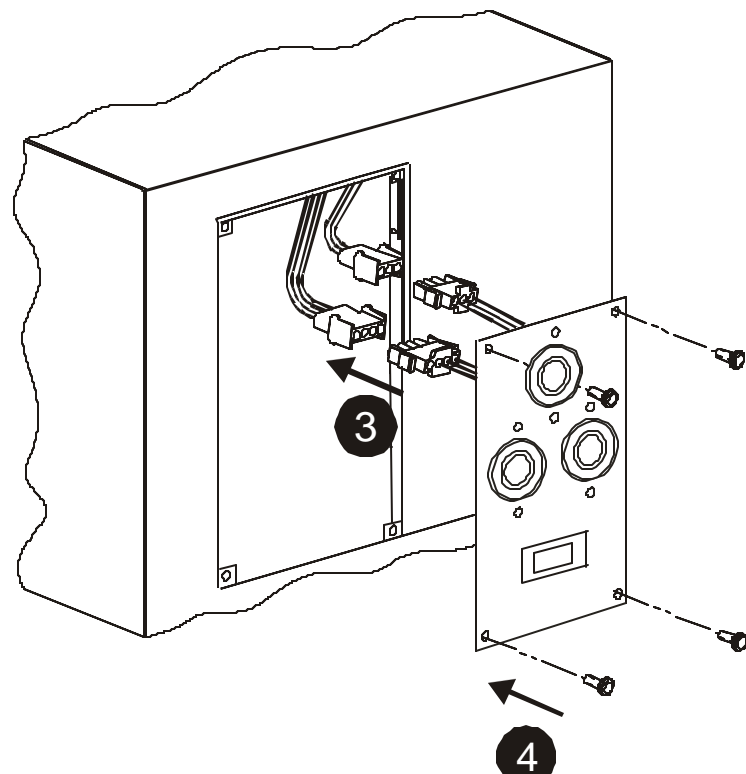

Figure 3.2 Install New PDU
3. Remove new PDU from its box and install new PDU by first reconnecting the connectors as shown in Fig. 3.2